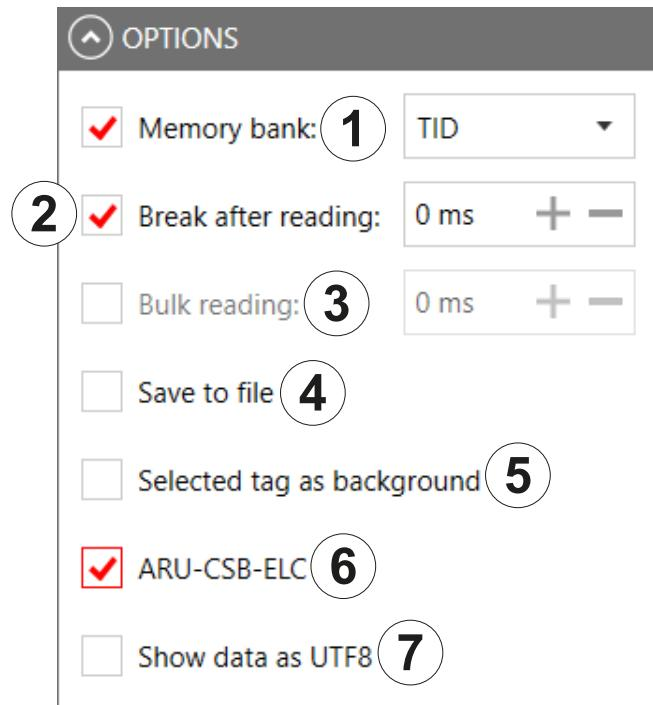

Fig. 44: Basic reading: options
Having selected the *ARU-CSB-ELC* (⑥ in Fig. 44, p. 84) under *Options*, the lower part of the screen shows the spatial allocation of a transponder: